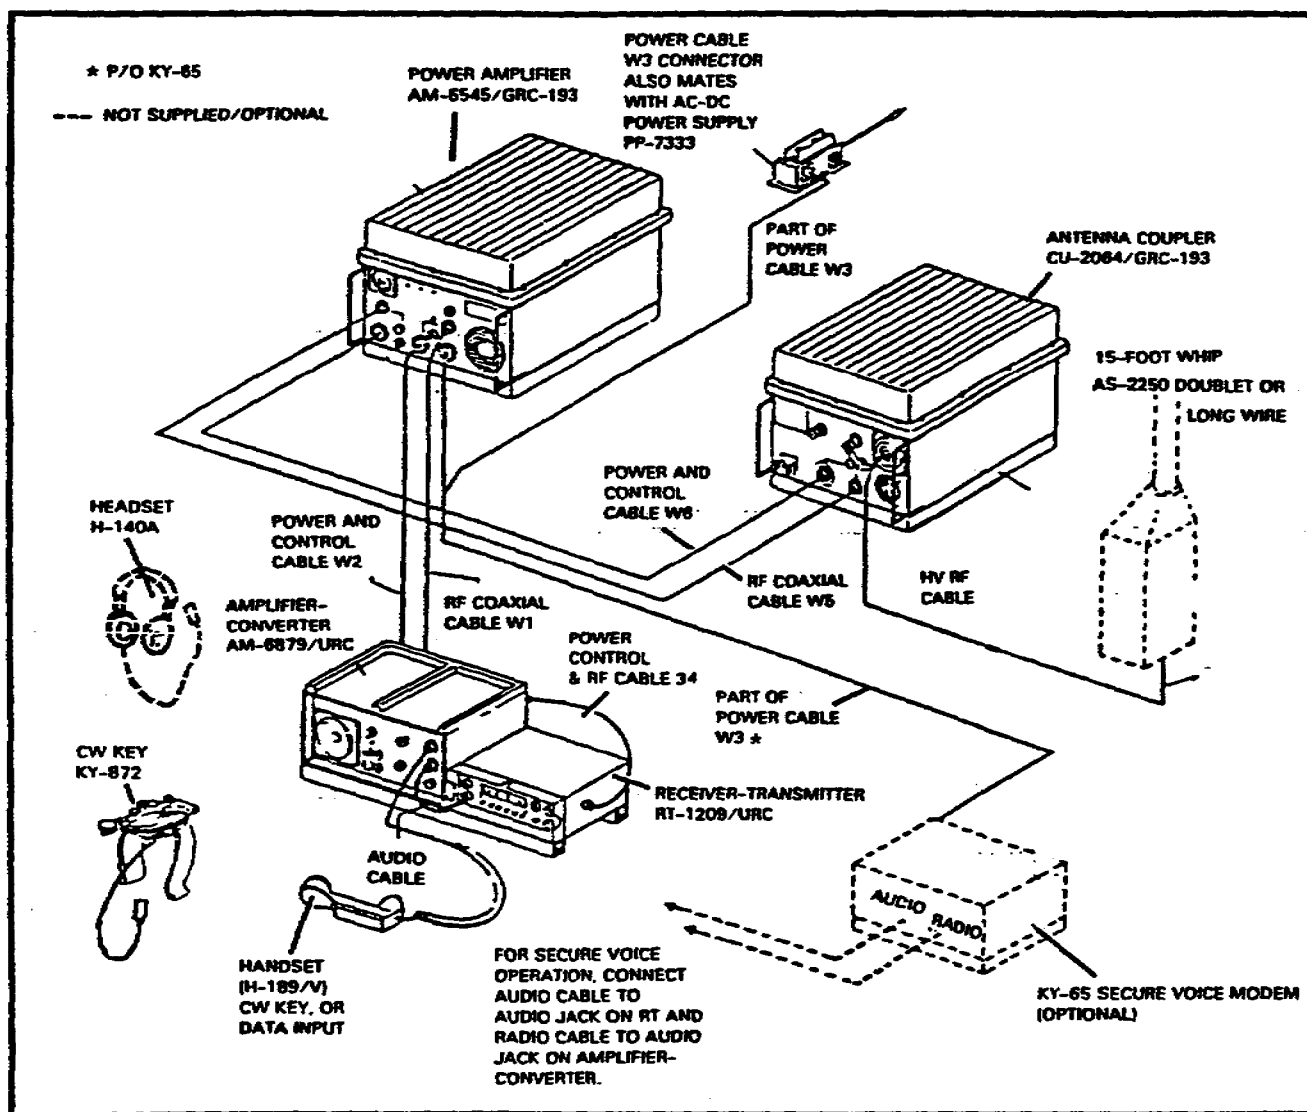

Figure 10. Cording diagram.
e. Cables designated W1, W2, W5, and W6 should be fed through the mount and clamped with the clamps provided in the installation kit. The clamps are screw mounted into threaded holes provided in the mount frame. Cable designated 34 should be attached to J6 of AM-6879 and lead around to the right side of the frame as the AM-6879 is slid into the mount. Cables should be mounted inside the MT-6232 when it is received, but if they are not you must mount them. (See Figure 10.)